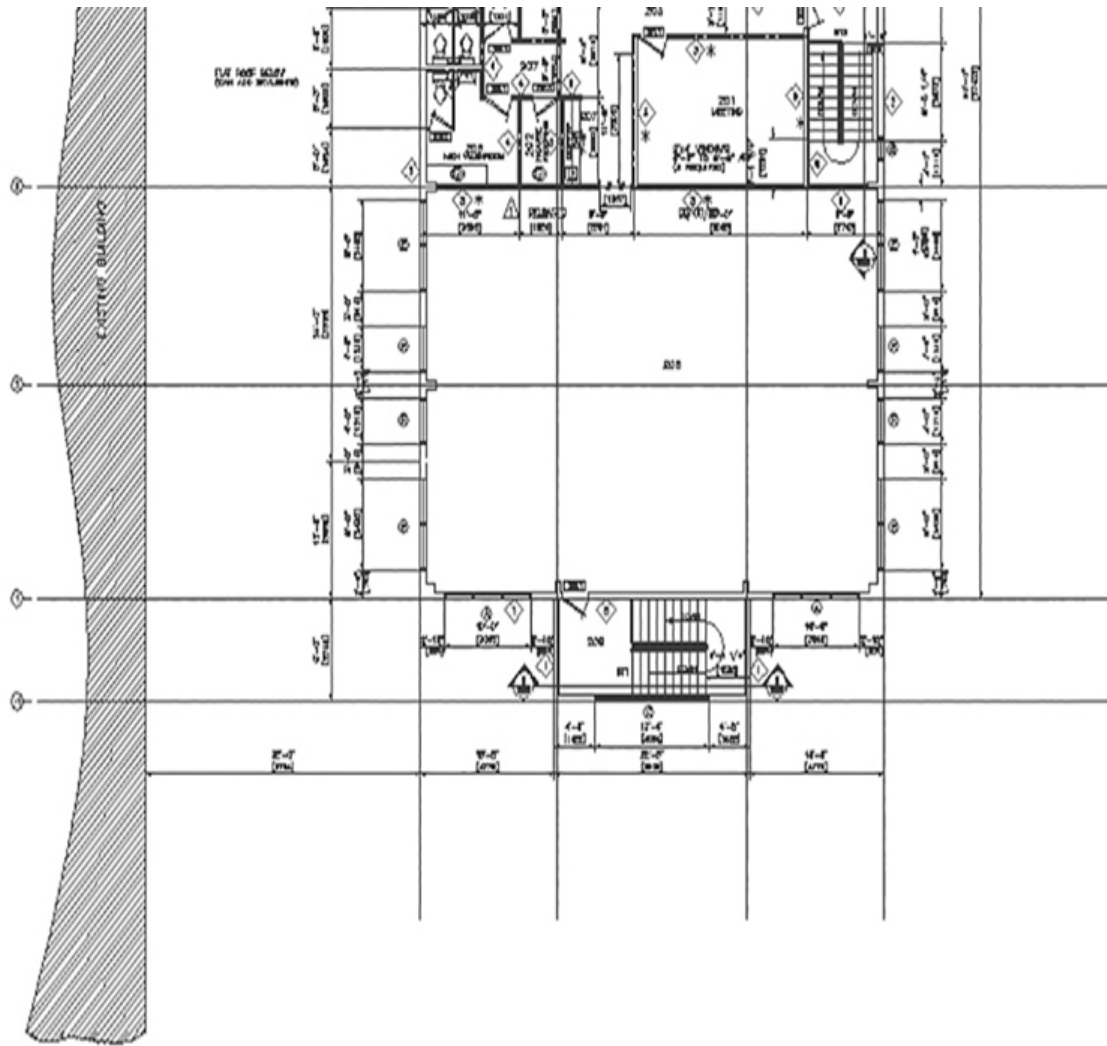

Figure 17-9
- 5 Save the drawing. Your drawing should resemble Figure 17-9.